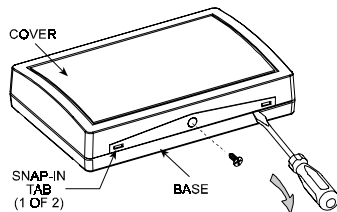

Figure 6. Separating the Cover from the Base
Tamper protection is accomplished with an on-board tamper switch, actuated upon removal of the front cover (Figure 6). If two
- Remove the screw that secures the cover to the base (Fig. 6).